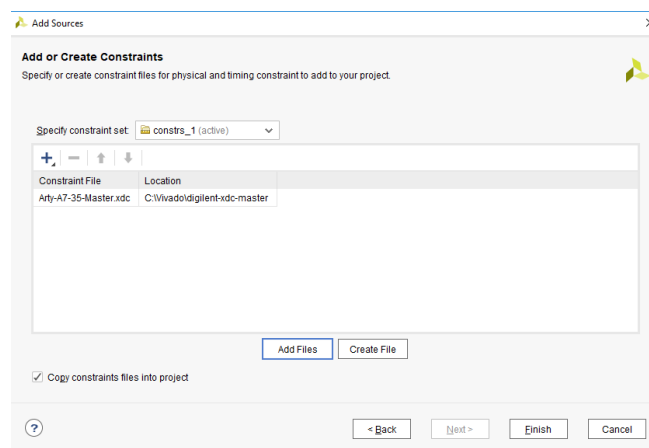

Figure 10: XDC file added
4. You will be prompted back to the "Add or Create Constraints" dialog box but now with the XDC file added (see Fig 10). Click "Finish" to continue.